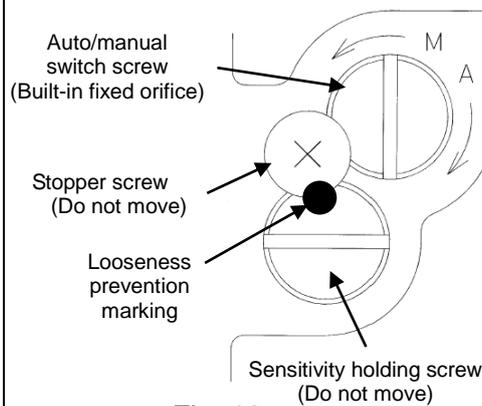

Fig. 18
- *6: Auto and manual mode can be switched by rotating the pilot valve unit auto/manual switch screw to the manual (M) side as shown in Fig. 18. A small stopper screw in the top is to prevent loosening and must not be tampered with or loosened. Also, a sensitivity holding screw is set prior to factory shipment and must not be accidentally rotated.